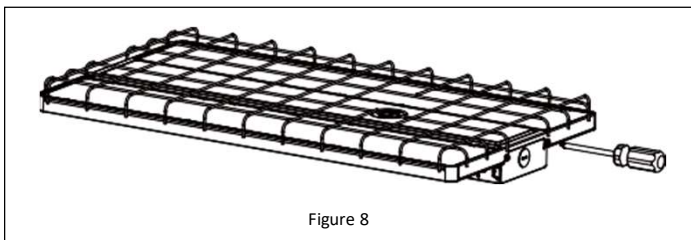

Figure 8
2. Secure the wire guard to the fixture with the supplied screws. *See Figure 8.*